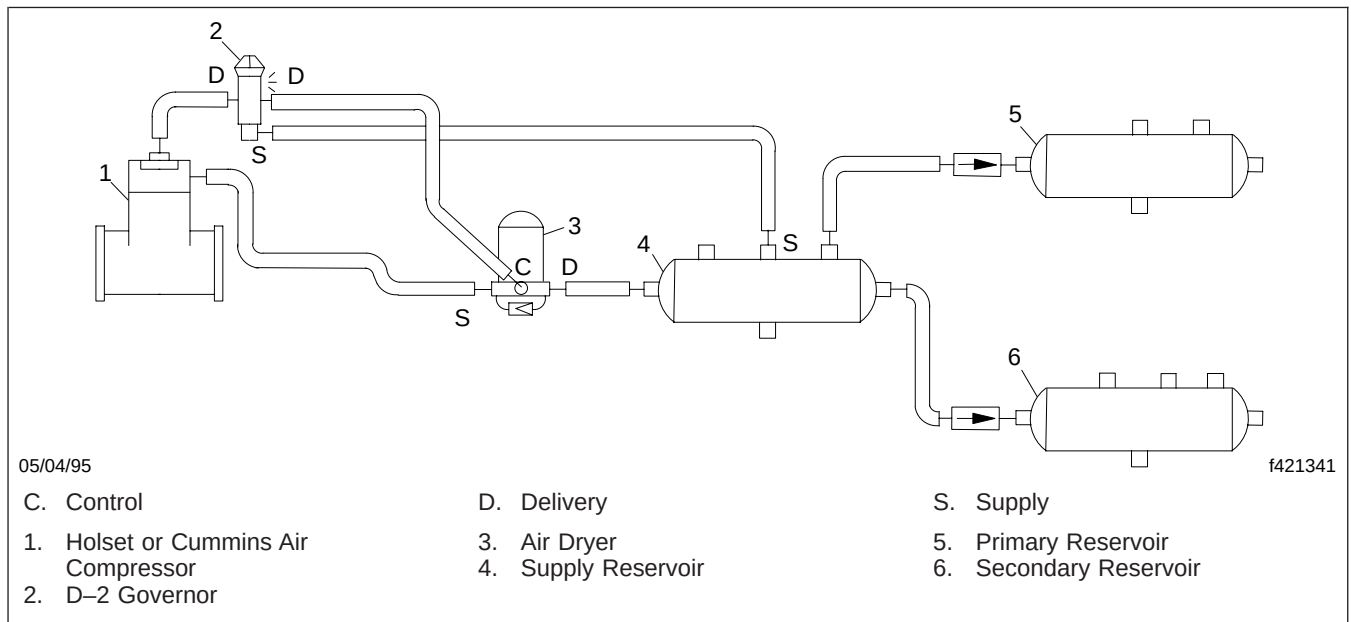

Fig. 3, Drop-In Style Air Dryer Plumbing Diagram (with Holset or Cummins air compressor)
- Drop-In Air Dryer (see Fig. 3):